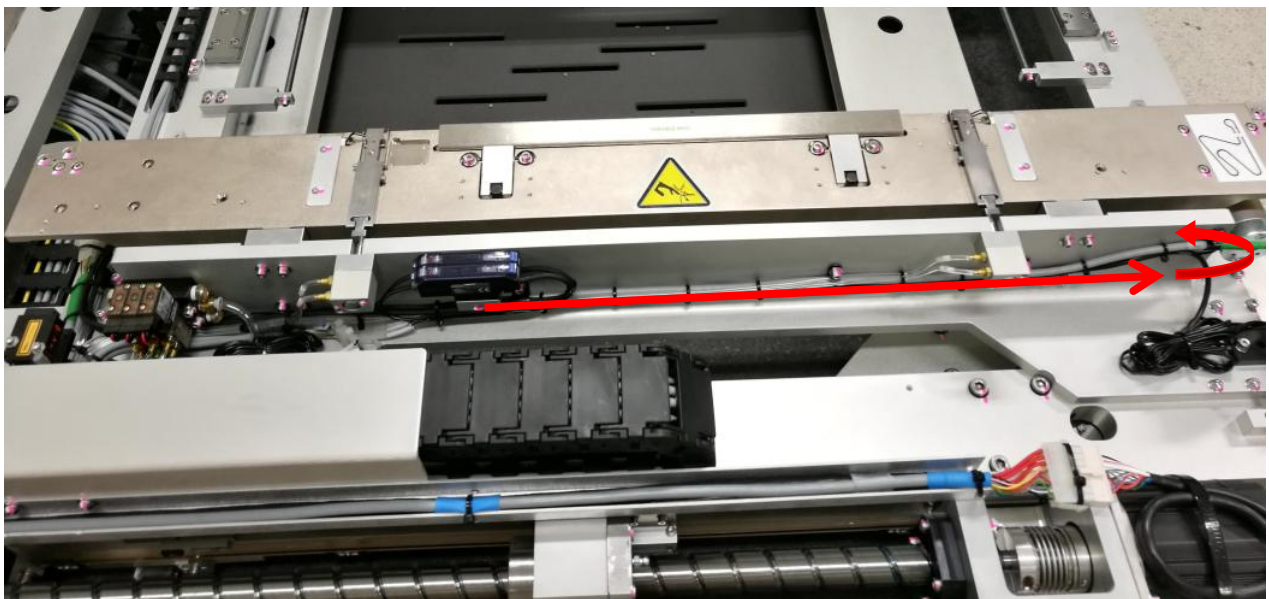
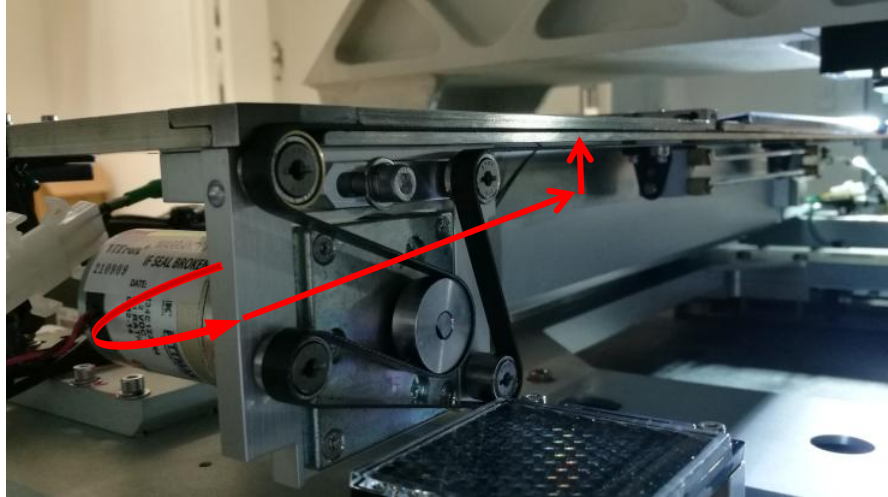

Figure 22 PIP Sensor Cable Removal
Figure 23 PIP Sensor Cable Removal
4. Remove PIP Sensor Cable by refer to below routing. May refer to Figure 22 & Figure 23